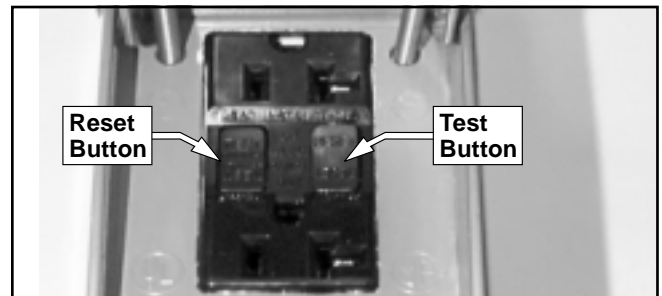

Figure 8.25—Electrical Power Outlet
1. Push the black test button (refer to Figure 8.25).